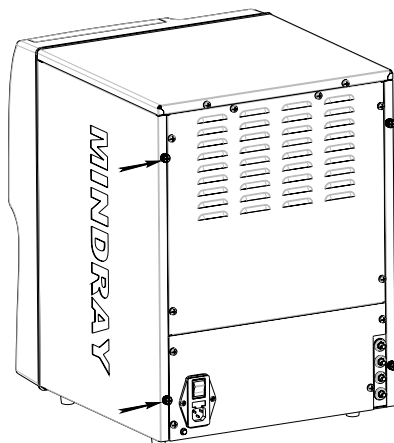

Figure 8-9 Removing the two screws
- Unscrew and remove with hands or screwdrivers the retaining screws (pointed by the arrows shown in Figure 8-9) on the right plate.
- Unscrew and remove with hands or screwdrivers the retaining screws (pointed by the arrows shown in Figure 8-9) on the right plate of this analyzer.